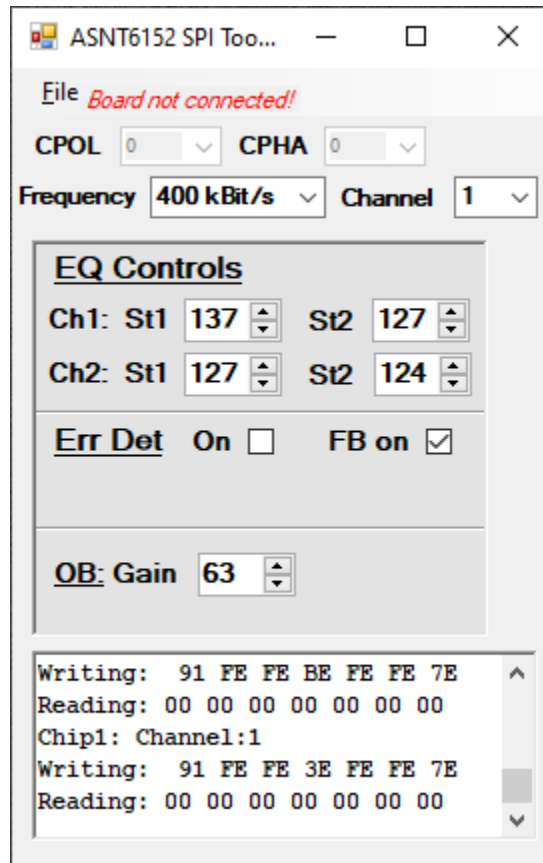

Fig. 9. GUI in the expert mode example
13. Example of a GUI running in the expert mode is shown in Fig. 9.